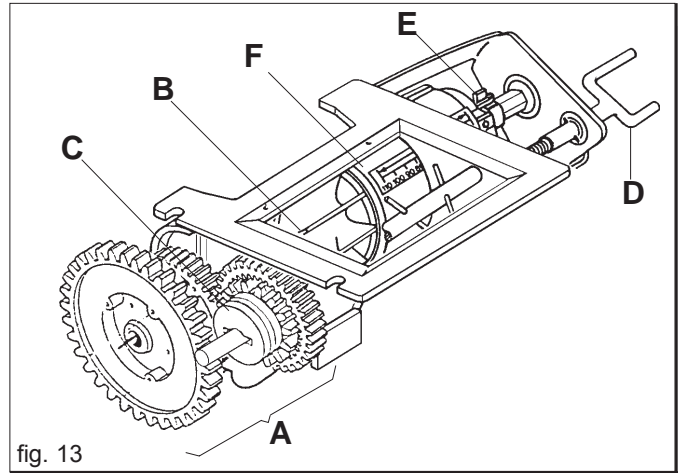
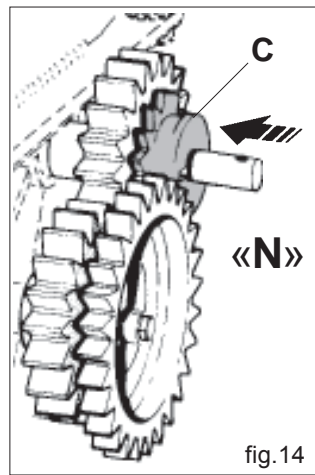
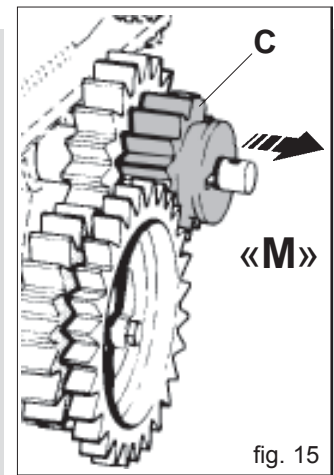
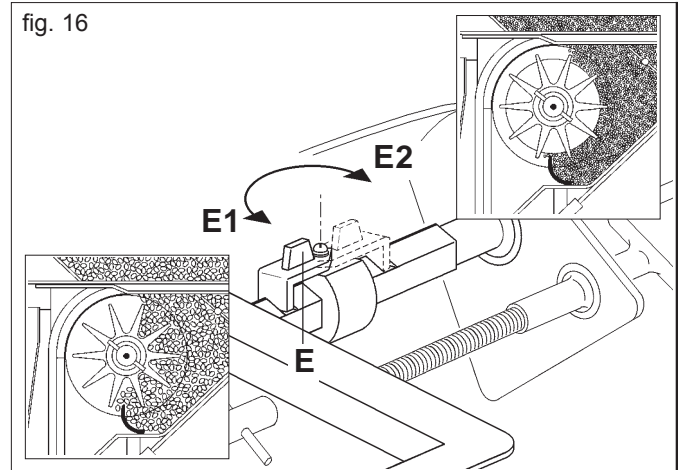

fig. 13
fig. 14
fig. 15
fig. 16
The doser (Fig. 13) the most important part for seeder operation, is located underneath the seed hopper. Motive power is transmitted to it by the drive wheel through gears (with ratios proportional to the width of the work to be carried out) and chains. Thanks to a gearbox (A Fig. 13) it allows the distributor roller (B) to operate with two gear ratios, by changing the position of the red toothed wheel (C Fig. 13, 14, 15). In position «N» (Fig. 14), the gear ratio is 1:1, as imposed by the pair of toothed wheels Z19; when the wheel (C) is shifted to the «M» (Fig. 15) position, the distributor wheel halves the number of revolutions, as the drive is then composed of the red drive wheel Z14 and the drawn wheel Z28. When a dosing test, as described in chapter 3.4.2, is performed, it may be observed that the quantity of product distributed is halved (see Table 3-4) compared to the test using ratio 1:1. The position «M» of the toothed wheel (C) is necessary for the distribution of small seeds and quantities.
The locking spring (E Fig. 13, 16) enables the opening range of the gate to be modified which, in turn, modifies the capacity of the dosing roller at the same time. The position «E1» (Fig. 16) enables the gate to be opened on a graduated scale, ranging from 0 to 110, with maximum capacity of the dosing roller; in the «E2» position, on the other hand, there is a gate opening range of 0 to 25 and the capacity of the roller is reduced. It is important always to remember to close the gate completely (0 on the graduated scale) in order to invert the position of the locking spring (E).
The distributed seed quantity per hectare is adjusted by the seed distributor (Fig. 13) by moving the graduated slide valve accordingly (F) with the screw staff (D). The positions of the distributor scale correspond to the adjusting table values in the left column (Table 3 and 4, page 40).